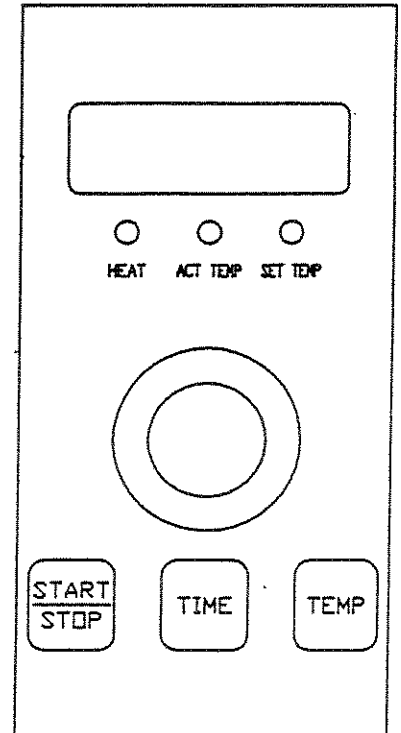

Figure 1
A. Keyboard Description (Refer to Figure 1)